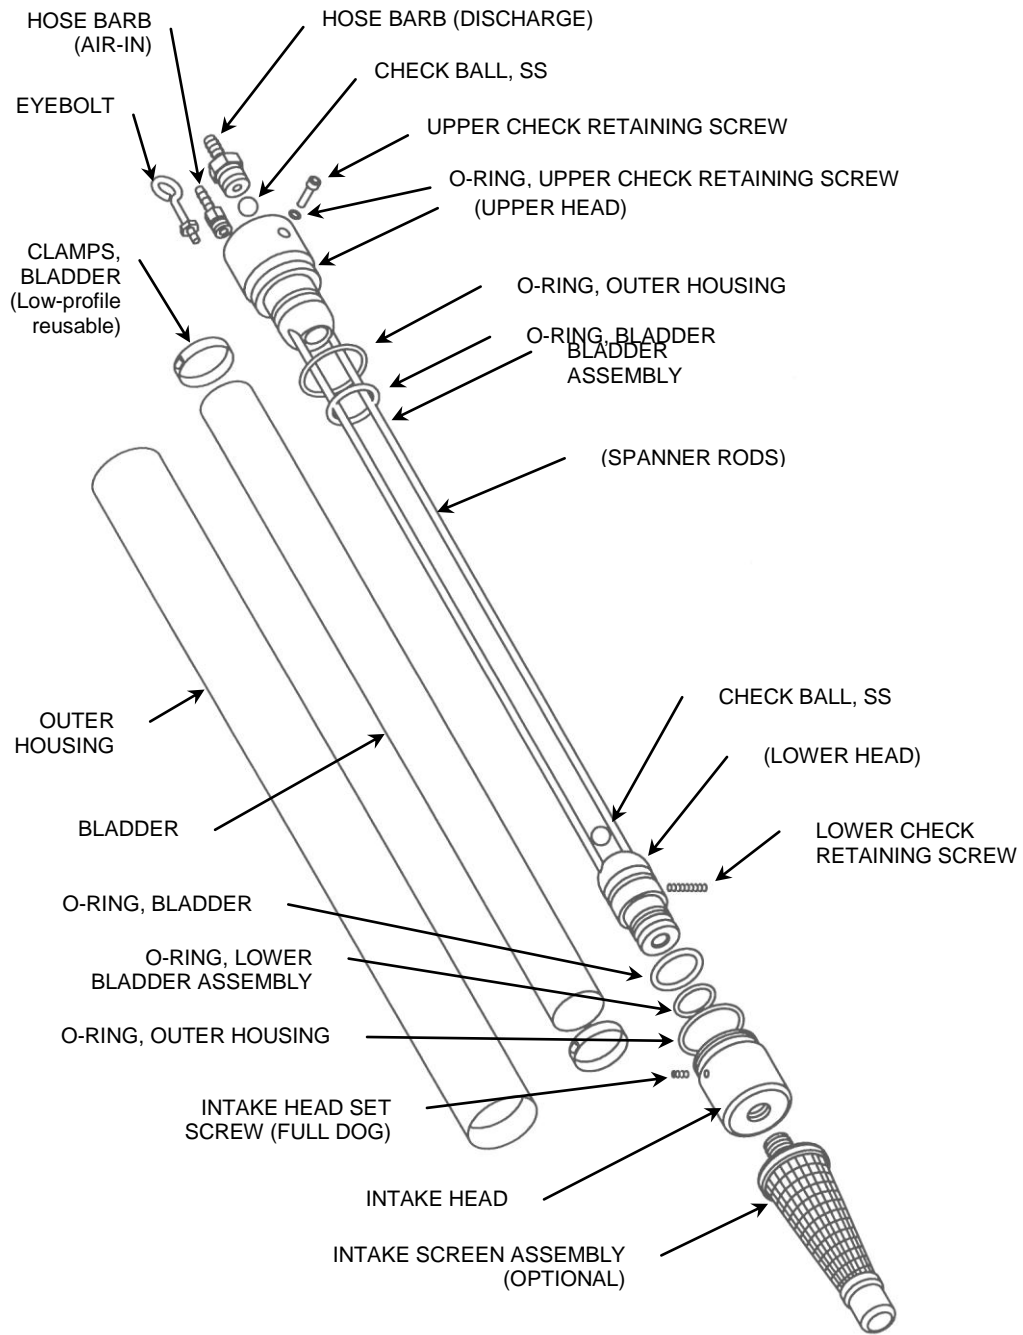

Figure 1
The Marschalk Aquarius II Bladder Assembly is a welded assembly consisting of four 316 Stainless Steel components, the Upper and Lower Head and two Spanner Rods. (see figure 1, page 5).
As with any pump, scheduled or periodic maintenance should be performed, according to your sampling program and specific site conditions. Generally, the more turbid or sandy your water, the more often you should maintain and clean your pumps. In addition, pumps that are in wells with high concentrations of Total Dissolved Solids (ex. iron, calcium, and manganese) may be subjected to mineral deposits and require more frequent cleaning (see System Components, figure 1, page 5).
- Using a 3/32" Allen wrench, remove the Intake Head set screw. Gently pull and twist the Intake Head to remove it from the Outer Housing (see figure 1, page 5).
- Remove the Outer Housing (see figure 1).
- Using a pair of Oetiker clamping pliers, remove the upper and lower Bladder clamps. At this time, inspect the O-rings for rigidity, splits or cracks and replace them as necessary (see figure 1).
This set screw connection between the Bladder Assembly's "Lower Head" and the Intake Head is a critical structural element of the Aquarius II Bladder Pump (see figure 1, page 5). Do not over-tighten the screw when assembling the pump. Tighten the set screw only until it bottoms out in the groove of the "Lower Head". Improper assembly can seriously decrease the burst resistance of the pump. Do not pressurize the pump for any reason unless it is in a well. If the Intake Head is improperly installed and the pump is pressurized outside of the well the pump may come apart suddenly causing injury.